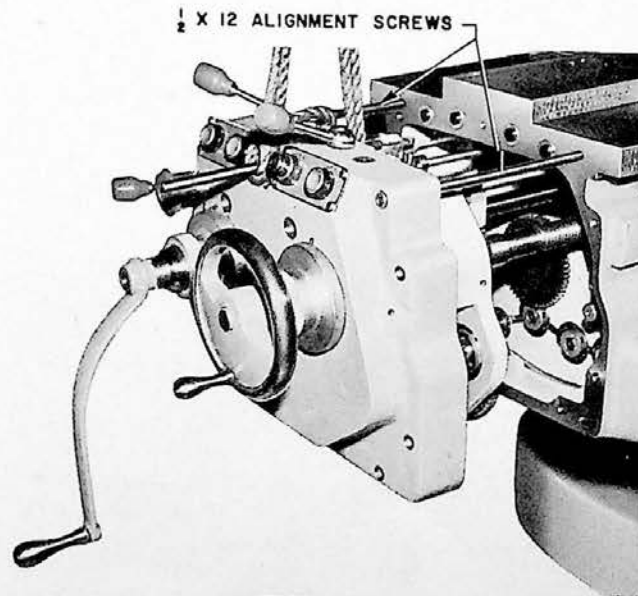

FIGURE 28
### To Remove and Dismantle Front Bracket (4ACY-14) (Figures 28 and 29; pages 126 thru 132)
2. When replacing bracket, clean and seal mating surfaces of bracket and knee. Screw a 1/2 x 12 inch threaded rod into each top corner of knee (See figure 28) and start front bracket onto these rods. (Threaded rods will guide bracket straight into knee. Keep hoist attached to bracket until bracket is securely screwed to knee). Pull saddle forward on knee. Turn cross screw handwheel as cross screw enters bracket-under-saddle. Continue to turn handwheel and bracket will be drawn into knee. Turn elevating handcrank to help splined shaft enter elevating gear inside knee. Sway bracket, as necessary, to make internal control rod connections.
3. Front bracket shafts must be removed in this order; safety gear shaft (196); reverse gear shaft (158); sleeve coupling (175); cross screw (145); power elevating shaft (40); hand elevating shaft (44).
4. Use 1/2" plug puller and remove plug (170) from front of bracket. Loosen set screw in shoe type lock nut (171), tap screw to release locking shoe beneath it and remove lock nut.